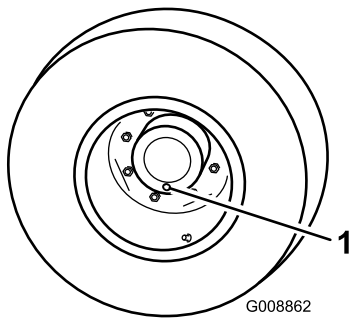

Figure 69
1. With the machine on a level surface, position a wheel so a check plug is at the lowest (6 o'clock) position (Figure 69).